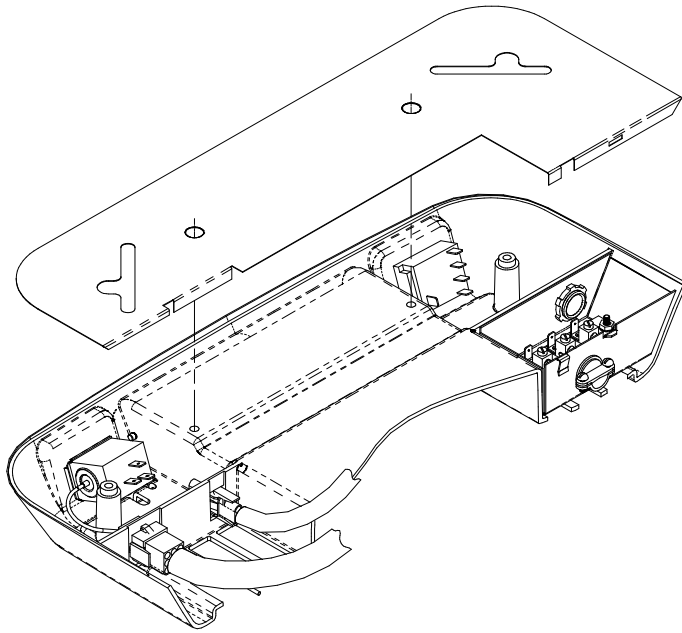

FIGURE 2
4. Insert the supply wiring through the cable clamp and into the field wiring box so that 4-6" of supply conductor is inside the box. Secure the cable clamp over the supply wire sheath so that no movement is possible (See Figure 2).